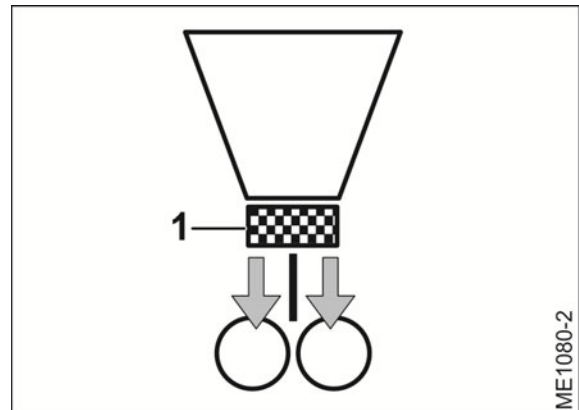

Fig. 98
- one metering unit (Fig. 98/1) supplies both distributor heads with seed or fertiliser at the same time.